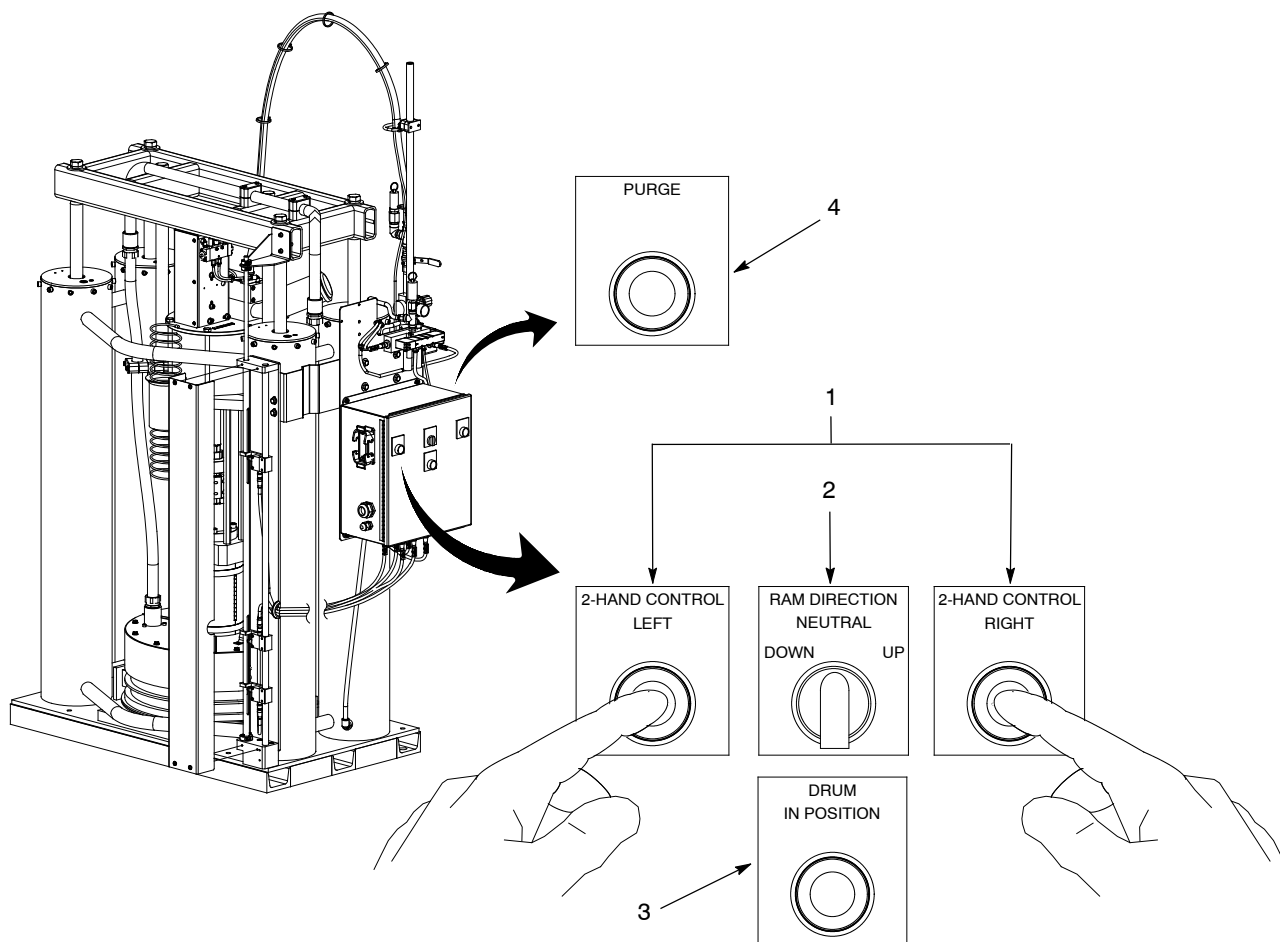

Figure 4 Operating the Controls
1. See Figures 4 and 3. Lower the follower:
- a. Make sure that the DRUM IN POSITION light (3) is on.
- b. Select DOWN on the RAM DIRECTION switch (2).
- c. Press the LEFT and RIGHT 2-HAND CONTROL push buttons (1) at the same time and hold in. Automatic ram movement will occur when the follower enters the drum and the Follower In Drum switch is enabled.
- a. Select UP on the RAM DIRECTION switch (2).
- b. Momentarily press both push buttons (1) at the same time. The ram moves upward until it reaches the full-travel position.
1. See Figure 4. Lower the follower:
- a. Select DOWN on the RAM DIRECTION switch (2).
- b. Press the LEFT and RIGHT 2-HAND CONTROL push buttons (1) at the same time and hold in. Release the push buttons to stop ram movement.